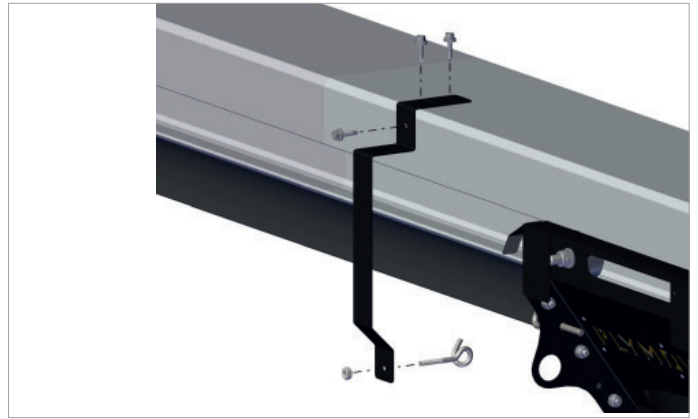

Fig. 6.3.9 Mounting the rope bracket
- Mount the rope bracket(s) using self-tapping screws $\frac{1}{4} \times 1$ in. (6.3 x 25 mm). Refer to fig. 6.3.9.